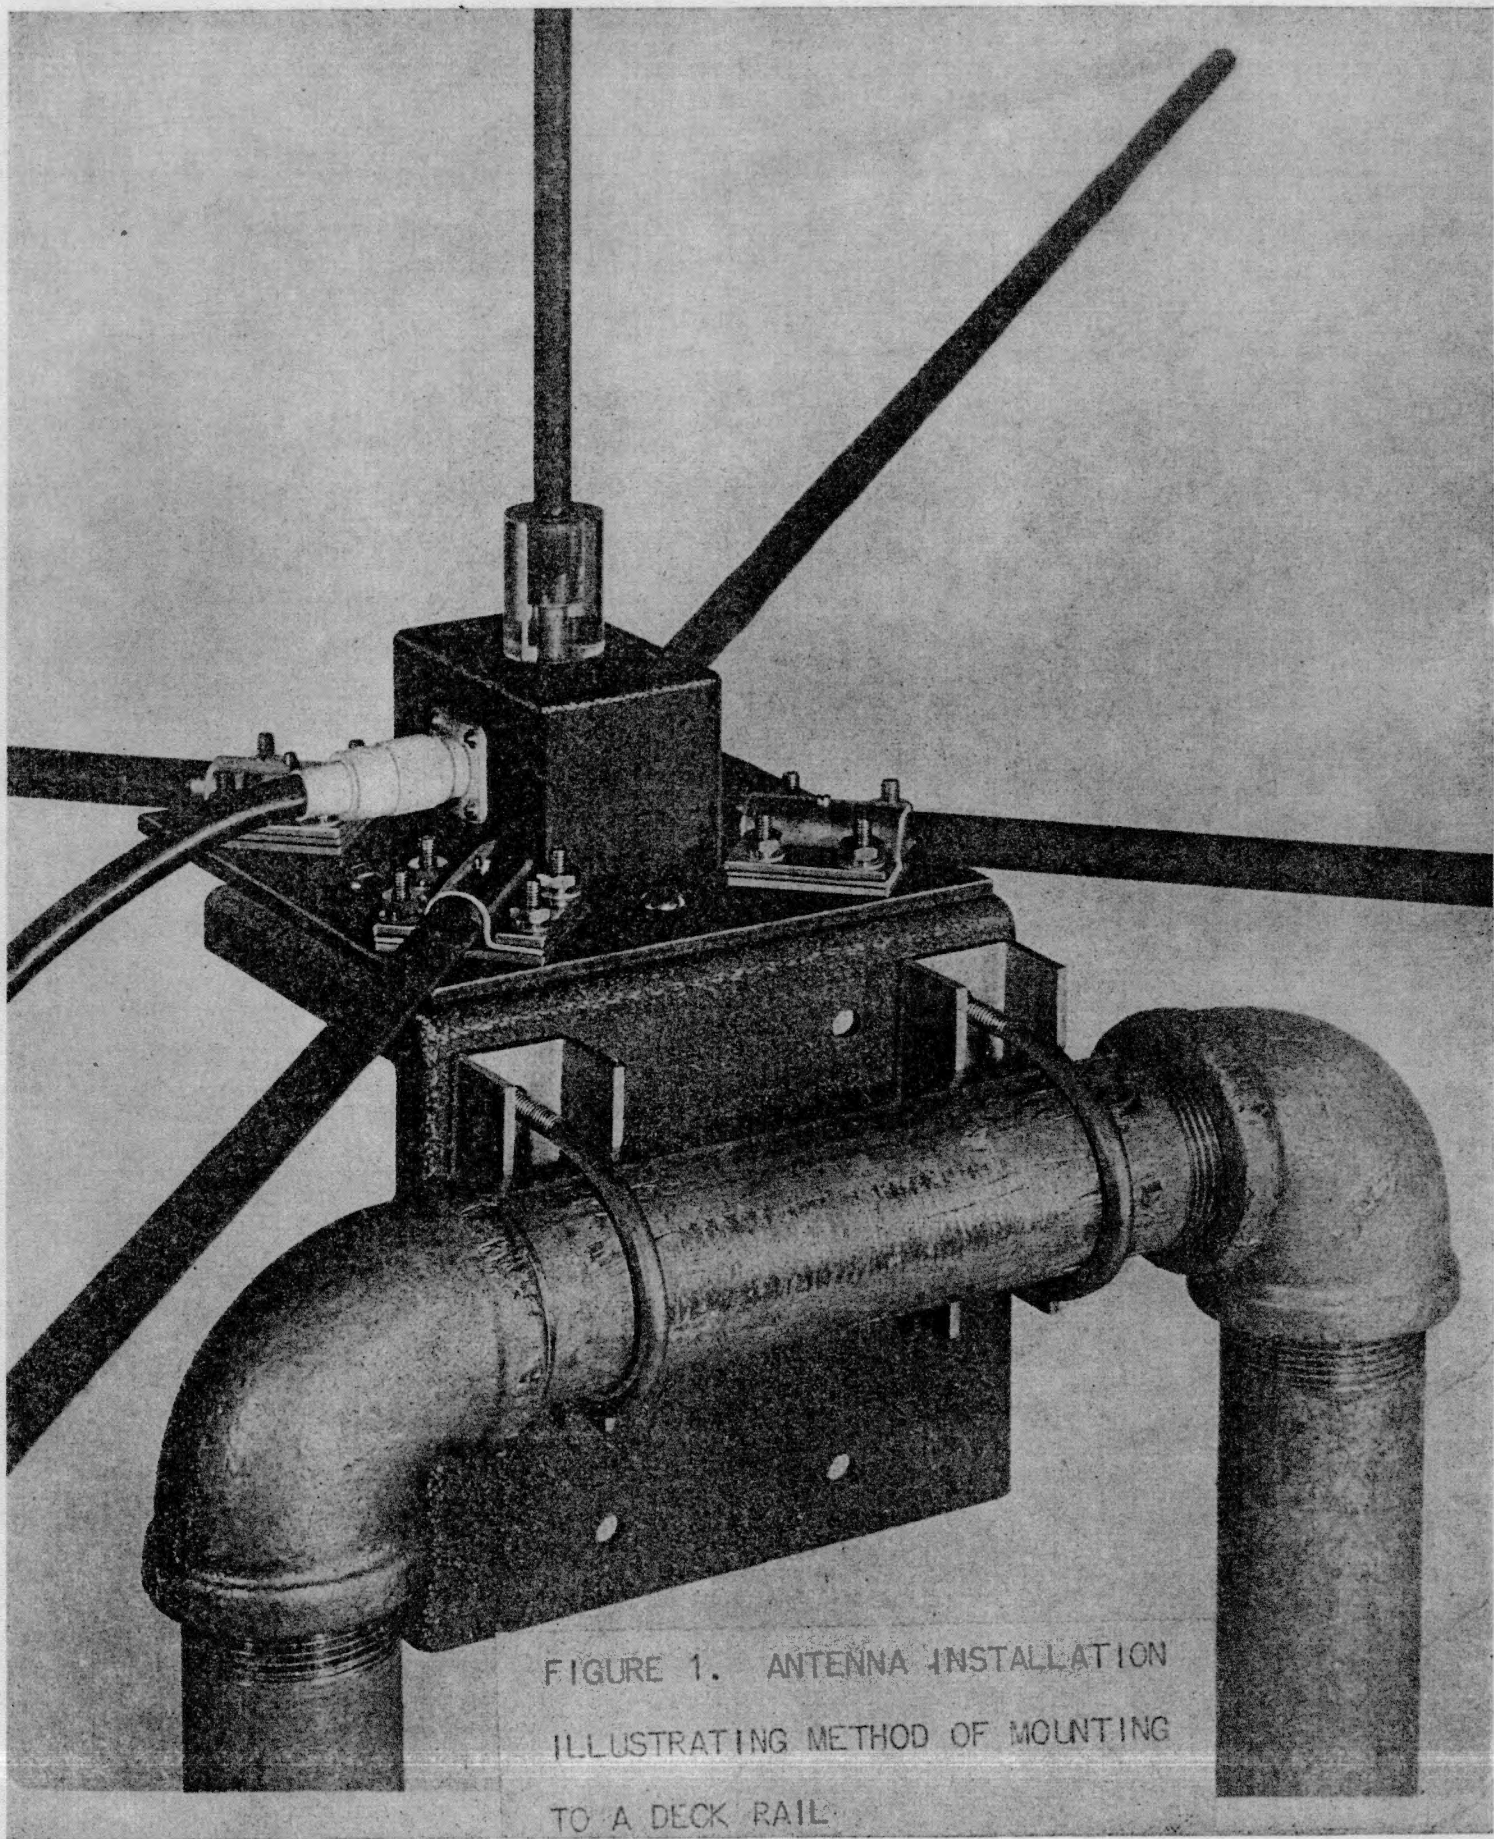

FIGURE 1. ANTENNA INSTALLATION
- Figure 1. Antenna installation illustrating method of mounting to a Deck Rail.
It is designed to be portable or fixed and is provided with accessories so that it may be mounted on either a deck rail, a vertical mast or rail, a bulkhead, or a deck. Figures 1 to 4 inclusive illustrate the different mountings possible.
The antenna may be used in several different positions as shown in Figures 1 to 4 inclusive. It is suggested that the installation be made rigid before the ground plane rods are permanently affixed in order to facilitate handling. No additional material is required for any of the mounting positions shown.